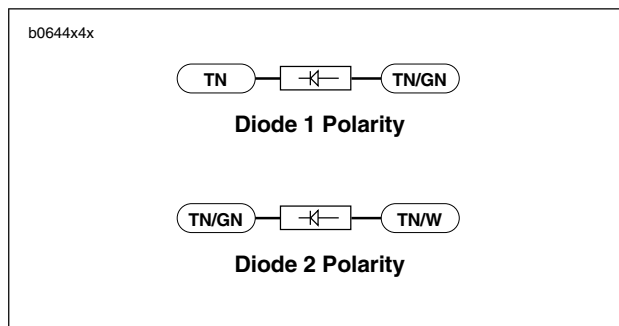

Figure 7-32. Diode Polarity
2. Check diode polarity as shown in Figure 7-32.